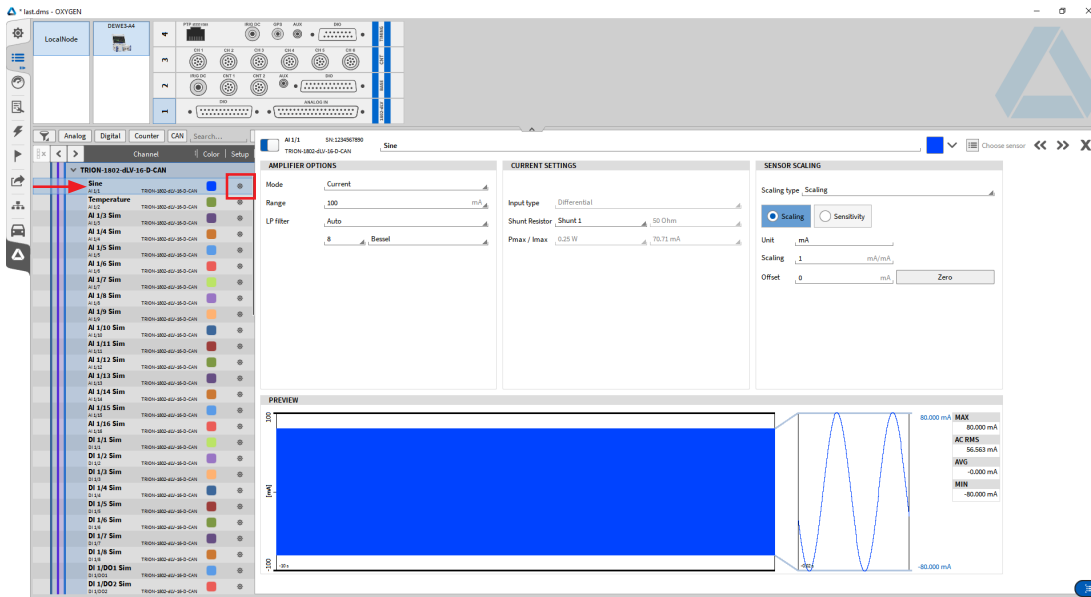

Fig. 20: Changing channel settings
2. Alternatively, the channel settings will also open by clicking on the gear button (see Fig. 20).